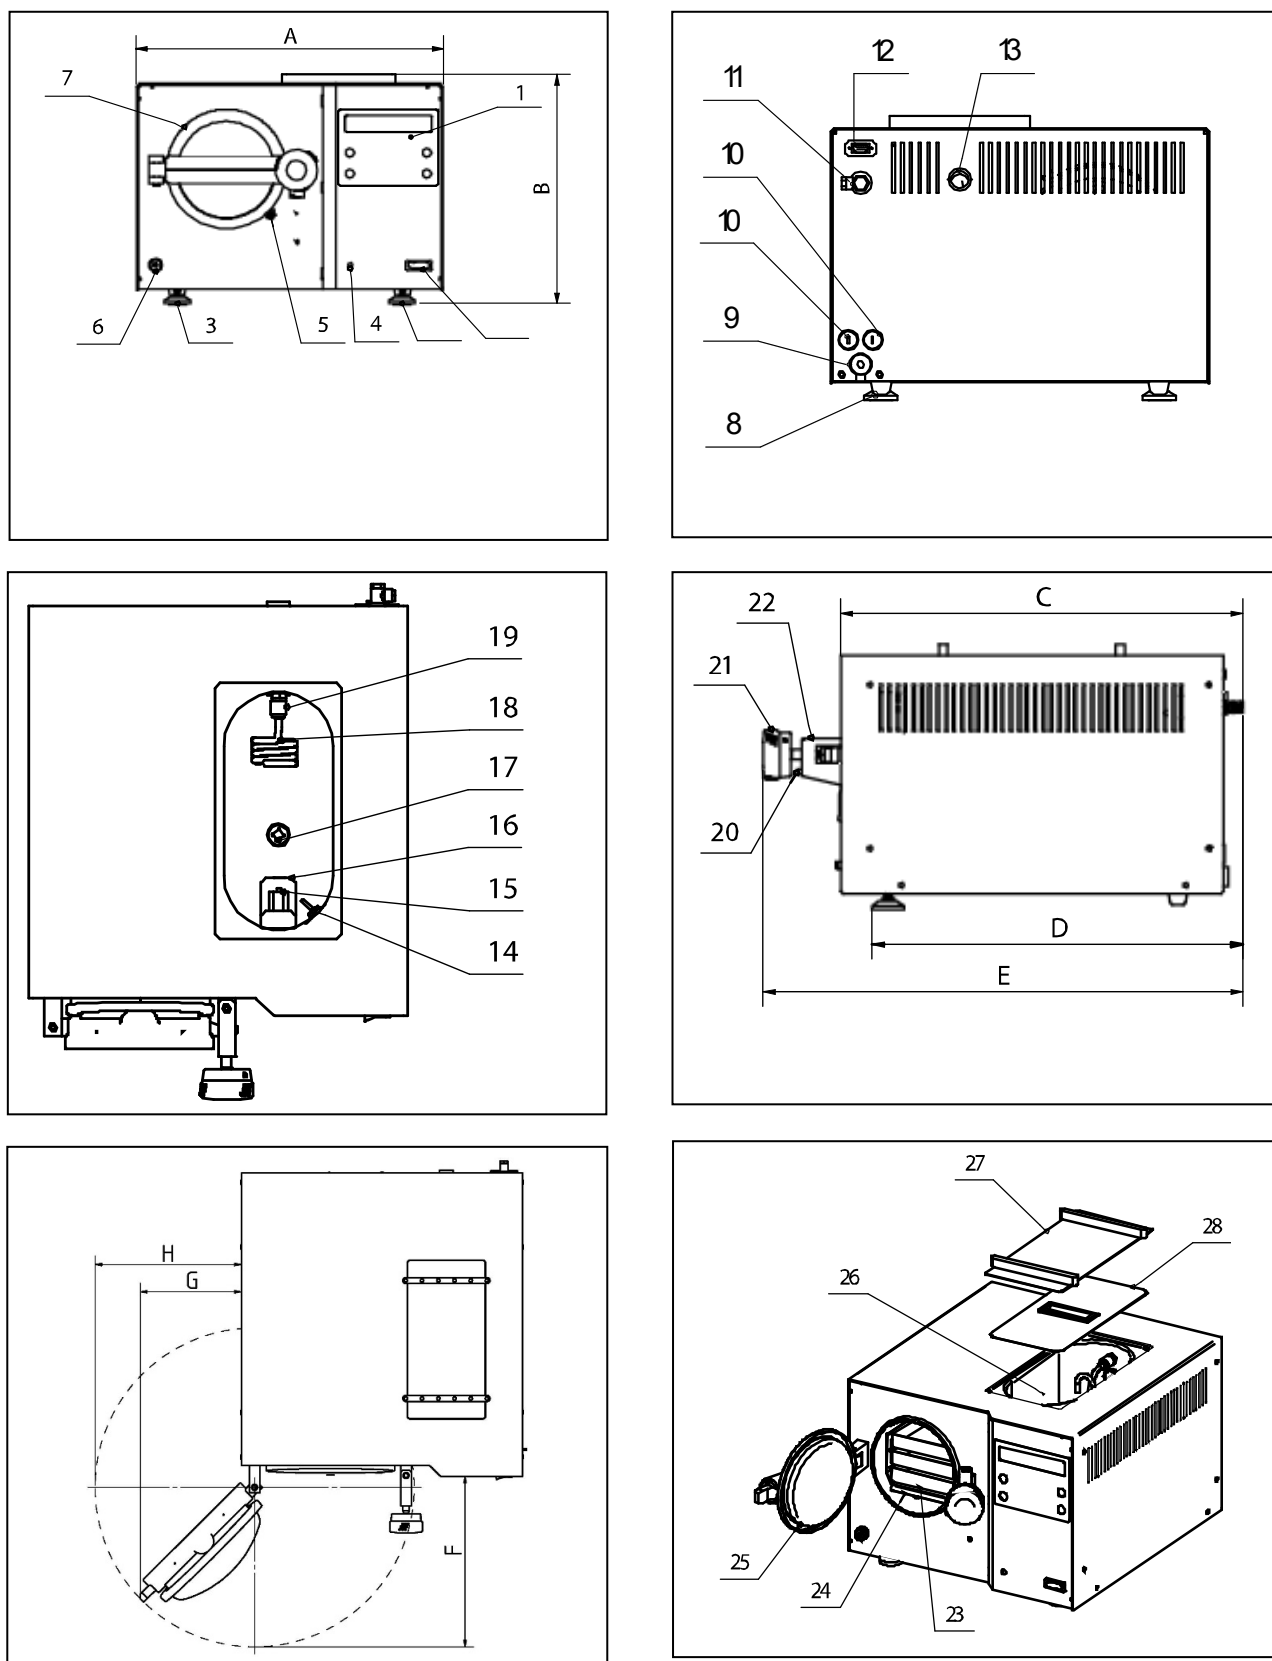

Fig. 1 Device views
- If you connect an external condensate container to the steam sterilizer, be sure to remove the condensing coil for pressure relief (Fig. 1 Pos. 18) from the water storage tank. Check the level of water in the condensate tank every day, and empty this tank to prevent water from overflowing and causing damage to the room. There is no automatic monitor for the level of condensate water.
If the sterilizer is used often, the water in the water storage tank becomes extremely hot, so that complete condensation in the tank is not possible, and steam will exit from the vent openings (Fig. 1, Pos. 13) on the back wall of the steam sterilizer. Under these conditions, an external condensate container (art. no. 00356) can be connected to the steam sterilizer, and the condensing coil (Fig. 1, Pos. 18) can be removed from the water storage tank. The steam sterilizer will now operate with a single-use (non-reusable) water system, and the evaporated water for each sterilization will be condensed in the external condensate container. This configuration has the advantage that the water in the storage tank will not become too hot, and the steam will not be ejected from the steam sterilizer. Another advantage of this installation alternative is that impurities dissolved in the steam will not get into the water of the storage tank – and this means that clean distilled or demineralized water will once again be used for sterilization in the following program cycle.
For the supply with demineralized water from the integrated water storage tank (Fig. 1 Pos. 26) you need at least a space of 30 cm or more above the steam sterilizer.
Switch on the power using the switch on the front of the steam sterilizer (Fig. 1 Pos. 2).
Remove the lid of the housing (Fig. 1 Pos. 27) and the lid of the water tank (Fig.1 Pos. 28) below. Fill the water tank with ca. 3 Litres of purified feed water. Do not fill more water into the tank than up to the "MAX" mark (Fig. 1 Pos. 16). The cooling coils in the water storage tank should always be covered with water. This will
allow the steam flowing out to condense. It will also eliminate excessive consumption of distilled or demineralised water. For this reason, be sure to top up with distilled or demineralised water as soon as necessary. Or, better: drain out the remaining water through the water drain tap (Fig. 1, Pos. 6) and refill with fresh distilled or demineralised water up to the MAX mark.
Remove the blind cap from the connection point for the external condensate container (Fig. 1, Pos. 11), on the back wall of the steam sterilizer. Connect the drain pipe (supplied with the external condensate container) to the connection point, and tighten it securely with the coupling ring. Fill up the external condensate container up to the MIN mark with ordinary tap water, and place the tank under the steam sterilizer.
Finally, remove the condensing coil for the pressure release (Fig. 1, Pos. 18) in the water storage tank. Remove this coil by pressing toward the rear the locking ring of the plug-in connector for the condensate loop (Fig. 1, Pos. 19). After removing this coil, store it safely where you can find it easily.